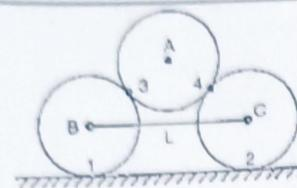

Fig 2.25
- 2) Sphere A '1000N' rests on two spheres each of weight 900N for fig 2.25. The spheres B & C are connected by an inextensible string of length L=600mm. Radius of spheres = 200mm. determine reactions at all contact points & force in string. (Ans: 1467.13N, 756.07N)